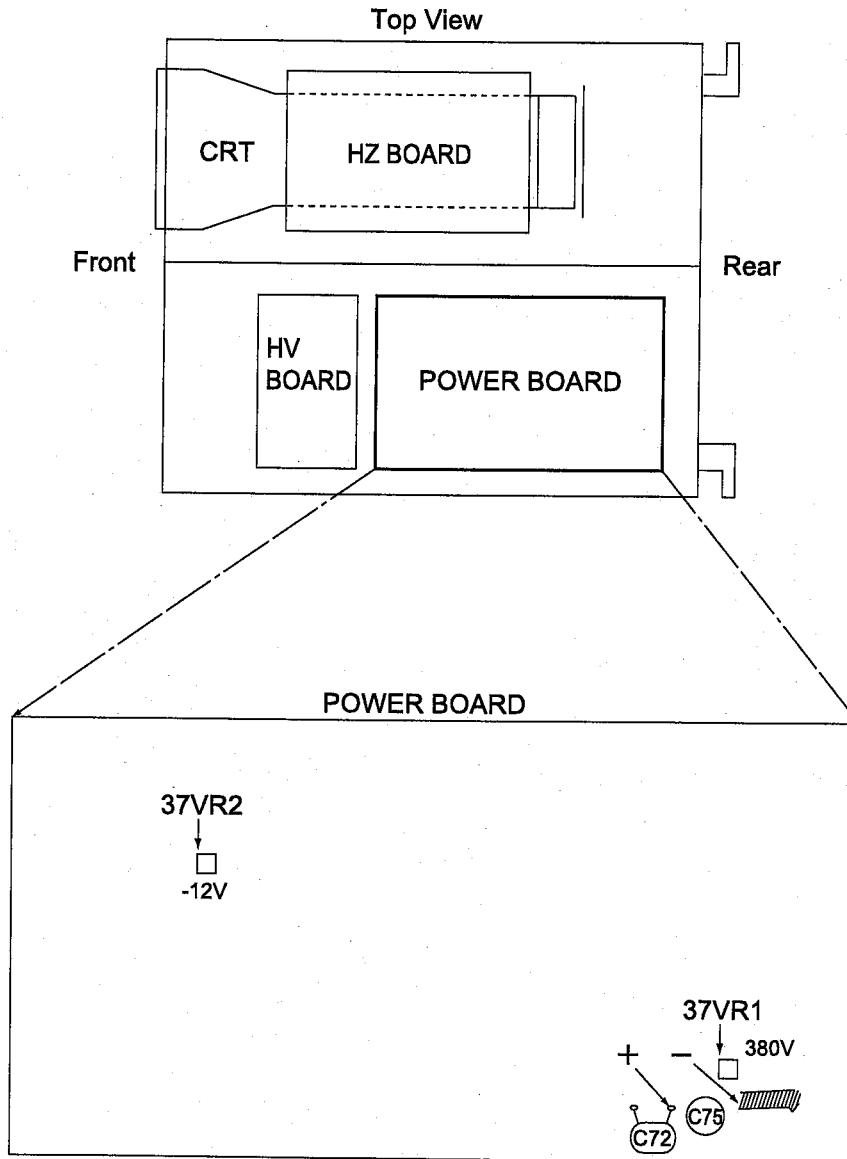
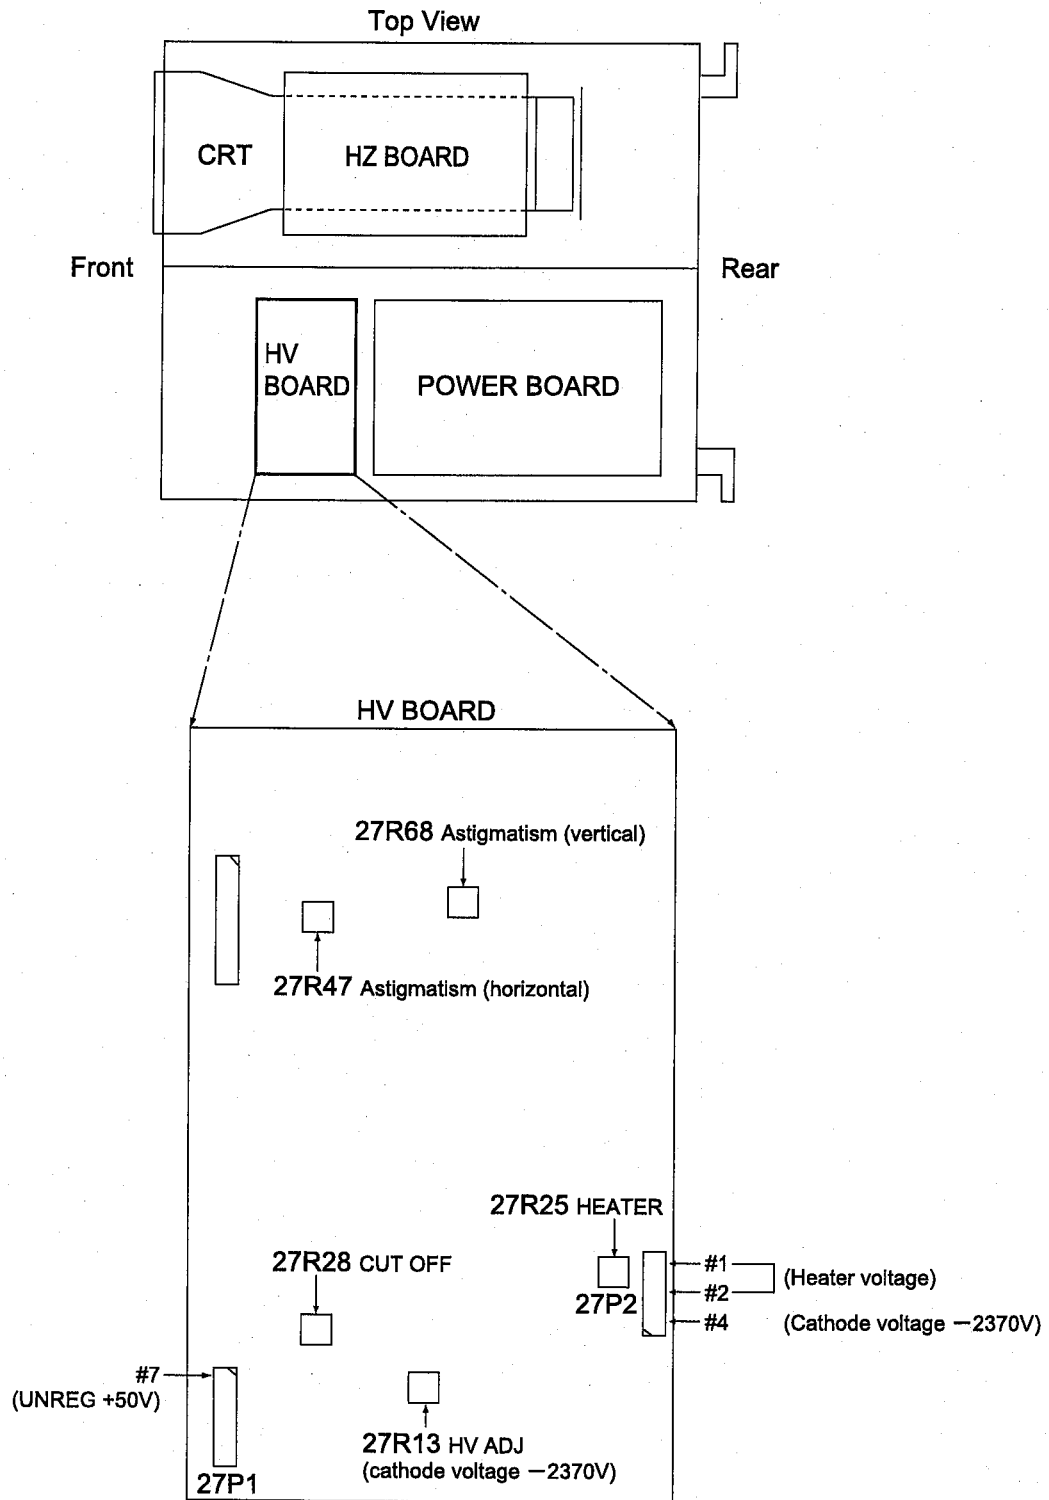
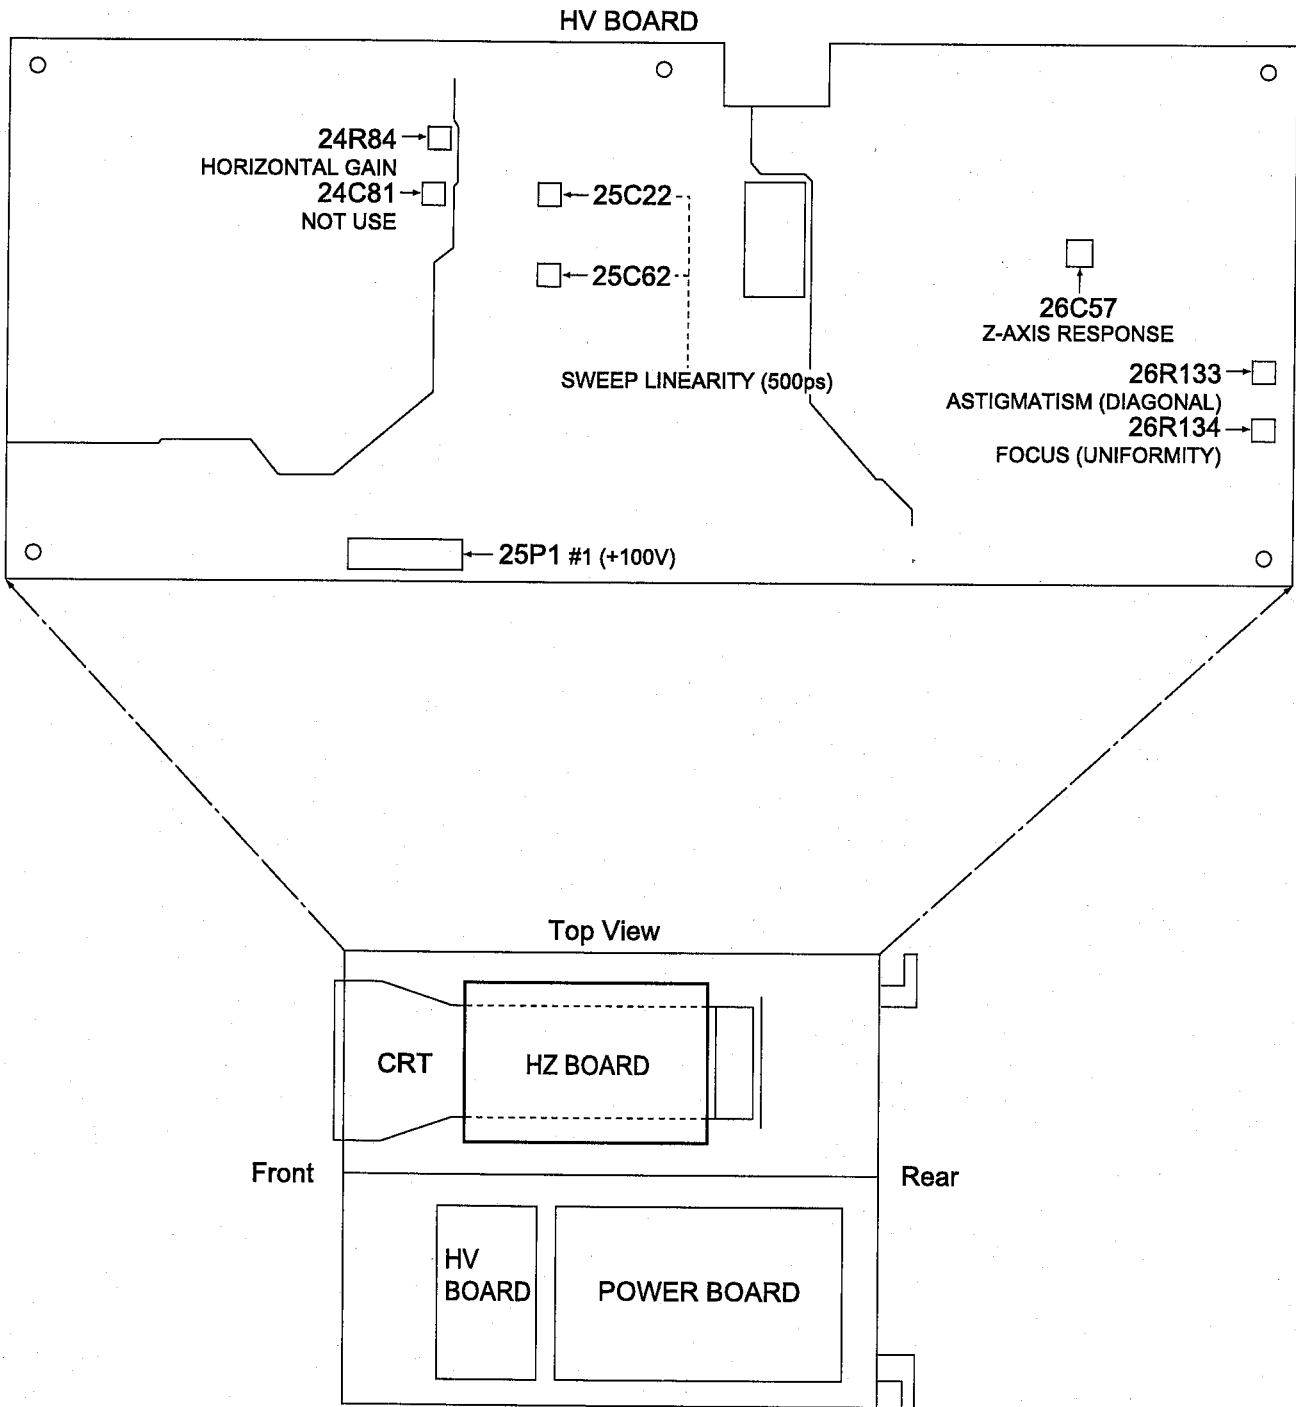
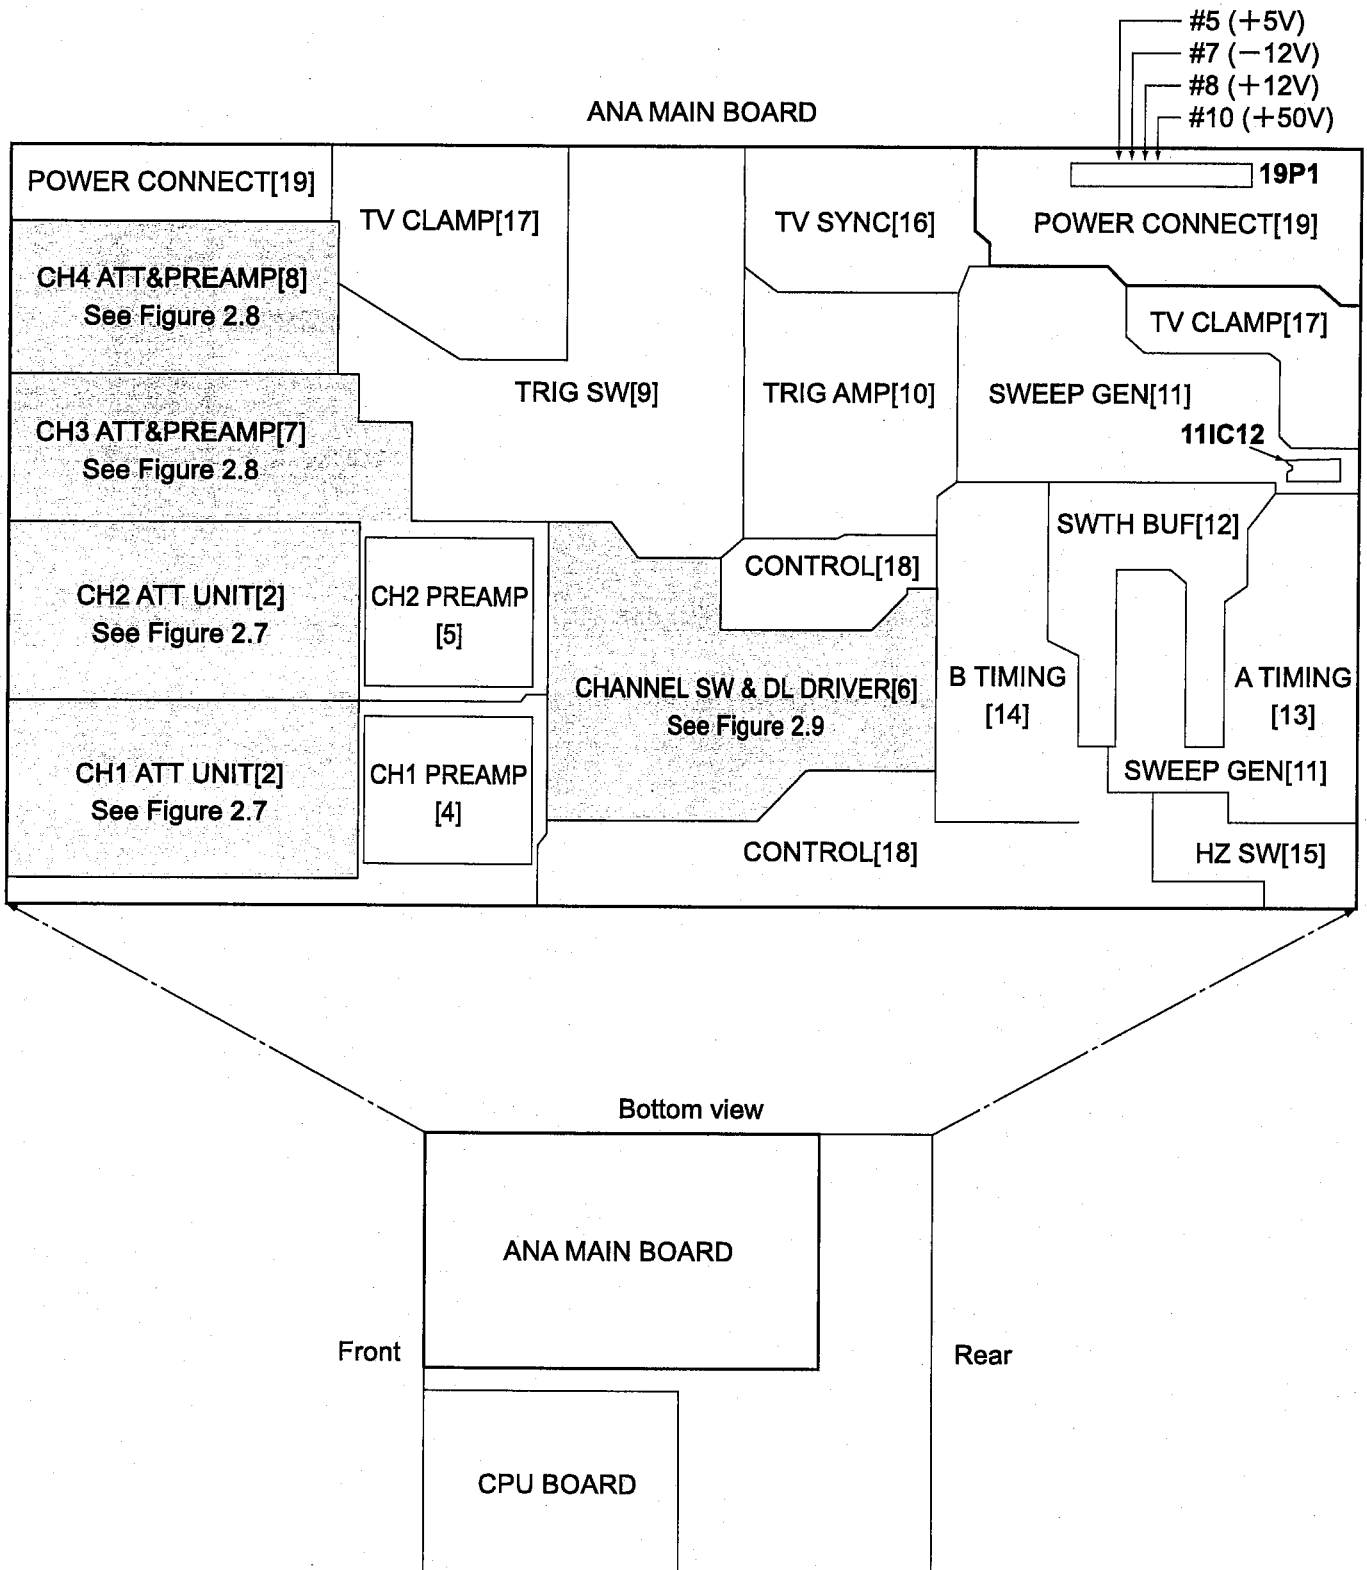

Figure 2.3 POWER BOARD
Figure 2.4 HV BOARD
Figure 2.5 HZ BOARD
Figure 2.6 ANA MAIN BOARD I (Over All)
- Figure 2.3 POWER BOARD : See page 2-18
- Figure 2.4 HV BOARD : See page 2-19
- Figure 2.5 HZ BOARD : See page 2-20
- Figure 2.6 ANA MAIN BOARD I (Over All) : See page 2-21
Test/ Adjustment Location	<ul style="list-style-type: none"> • Test point <ul style="list-style-type: none"> 19P1 : See "Figure 2.6 ANA MAIN BOARD I (Over All)" 25P1 : See "Figure 2.5 HZ BOARD" 27P1 : See "Figure 2.4 HV BOARD" P6 : See "Figure 2.11 CPU BOARD" • Adjustment <ul style="list-style-type: none"> VR2 : See "Figure 2.3 POWER BOARD"
Check/ Adjustment Location	27P2 #4, 27R13 : See "Figure 2.4 HV BOARD"
Check/ Adjustment Location	27P2, 27R25 : See "Figure 2.4 HV BOARD"
Check/ Adjustment Location	26R134, 26R133 : See "Figure 2.5 HV BOARD" 27R47, 27R68 : See "Figure 2.4 HV BOARD"
Check/ Adjustment Location	27R28 : See "Figure 2.4 HV BOARD"